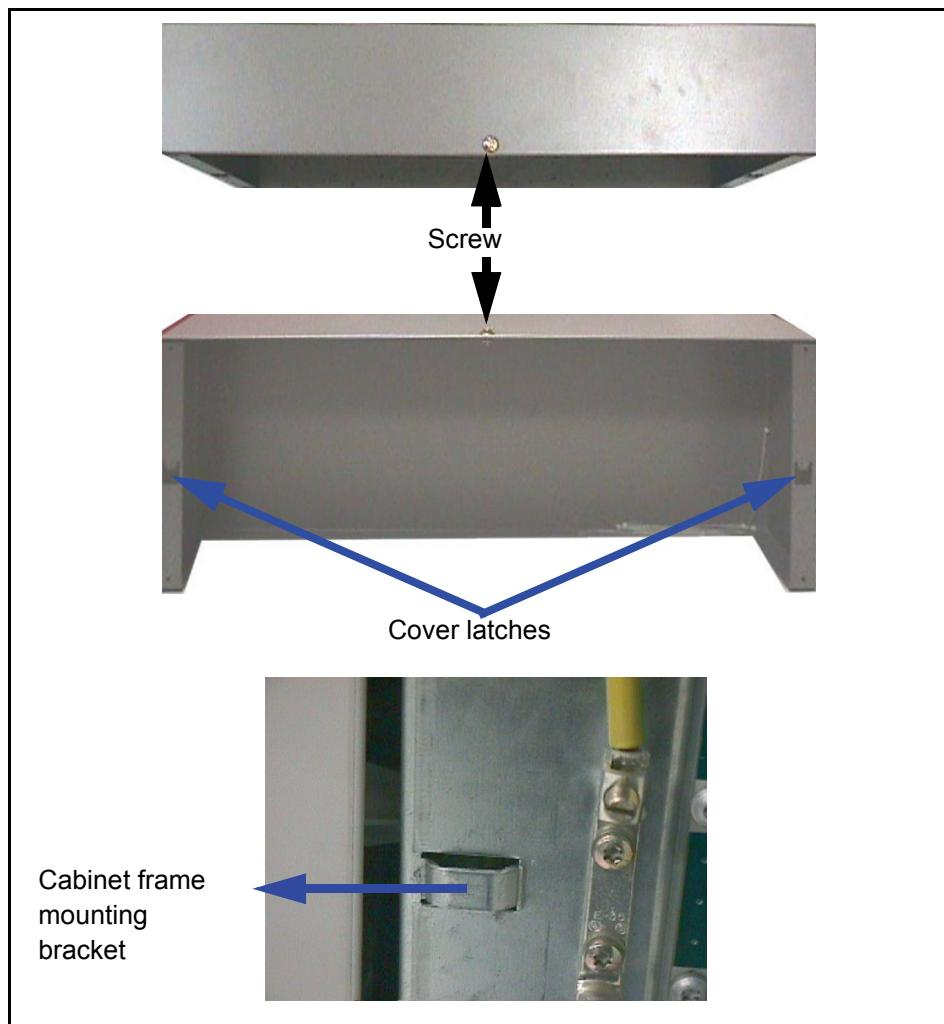
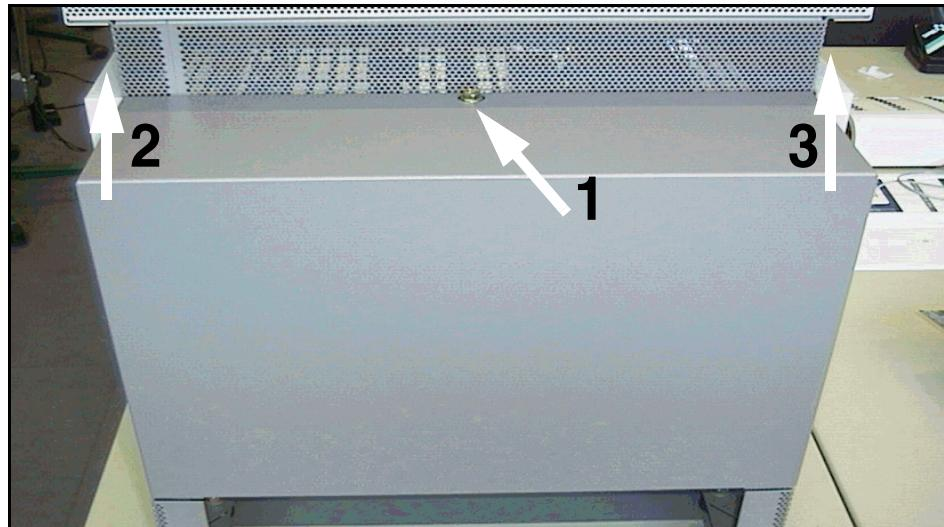

Figure 8 *Removing the back cover*
Figure 9 *Removing the back cover of a base cabinet*
1. At the top of the cabinet, remove the screw on the top cover with a flat-blade screwdriver (see Figure 8 and Figure 9).